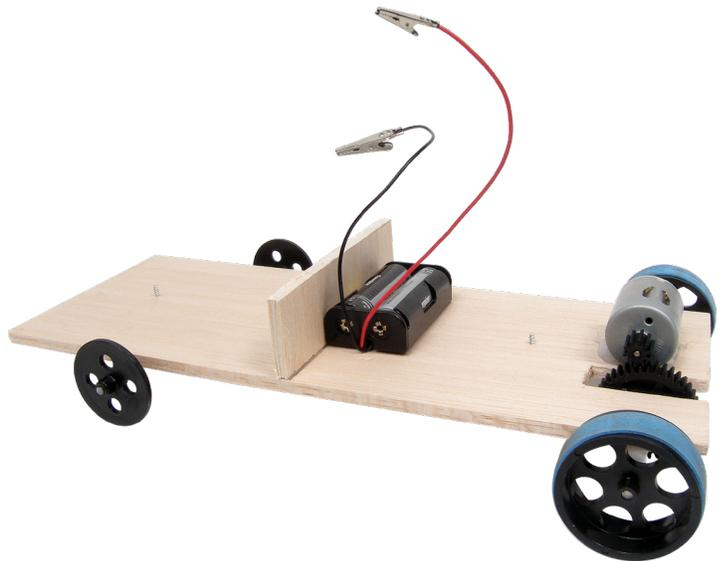

Figure 6
5. Position the battery holder behind the panel support member (Figure 6). Use a cool melt glue gun to attach the battery holder to the chassis. Make sure the leads are on the same side of the chassis as the motor terminals.